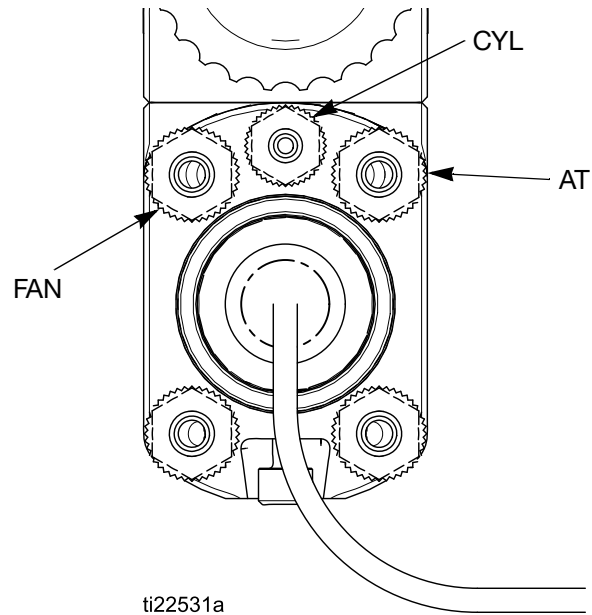

FIG. 20 Manifold Air Connections
6. Use the air pressure regulator on the atomization air supply line (AT) to adjust the degree of atomization. (See FIG. 20.) For example, for a fluid flow rate of 10 ounces per minute (0.3 liters per minute), a typical atomization pressure would be 20-30 psi (1.4-2.1 bar, 0.14-0.21 MPa) at the gun manifold.
2. Turn the gun spray functions on and off by using the air solenoid valve on the cylinder (CYL) air supply line. Applying a minimum of 50 psi (3.4 bar, 0.34 MPa) air pressure to the cylinder air fitting (CYL) will activate the on/off sequence of atomization air (AT), fan air (FAN), and fluid (P). See FIG. 20, page 28.